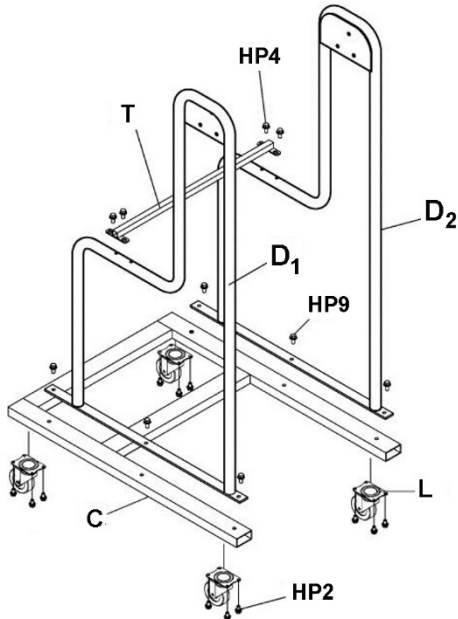

Figure 3
1. Install four casters (L) to base (C) with pan head screws (HP2). See Figure 3.
2. Install left and right stands (D₁, D₂) to base (C) with flange head screws (HP9).
3. Install stand support (T) to stands with flange head screws (HP4).